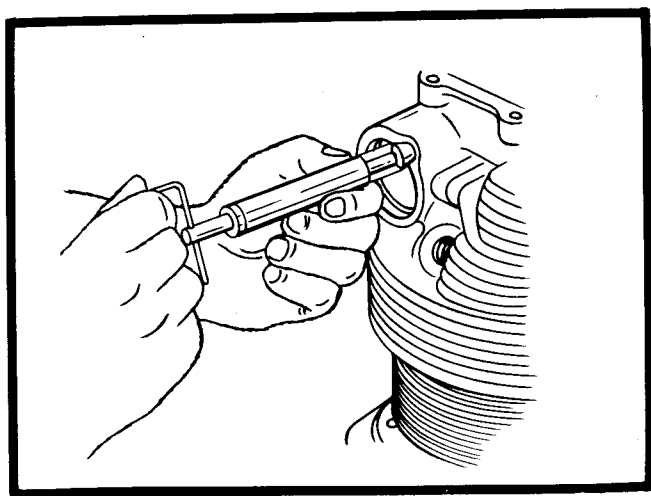

Figure 6-1. Installing Helical Coil Insert.
c. To remove a damaged helical coil, use the proper size extracting tool specified for the nominal thread size. Tap the tool into the insert so the sharp edges get a good "bite". Turn the tool to the left and back the insert out. To install a new insert, blow out all chips and liquid, slide the insert over the slotted end of the mandrel, and engage the driving tang in the mandrel slot. Wind the insert into the tapped hole slowly (See Figure 6-1). The outer end of the insert should lie within the first full thread of the hole. Break off the driving tang with long nose pliers.